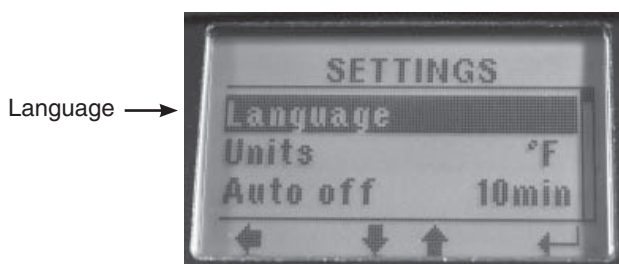

Figure 9. Language Selection
3. Use UP/DOWN buttons to scroll to "Language" (Figure 9) then press ENTER